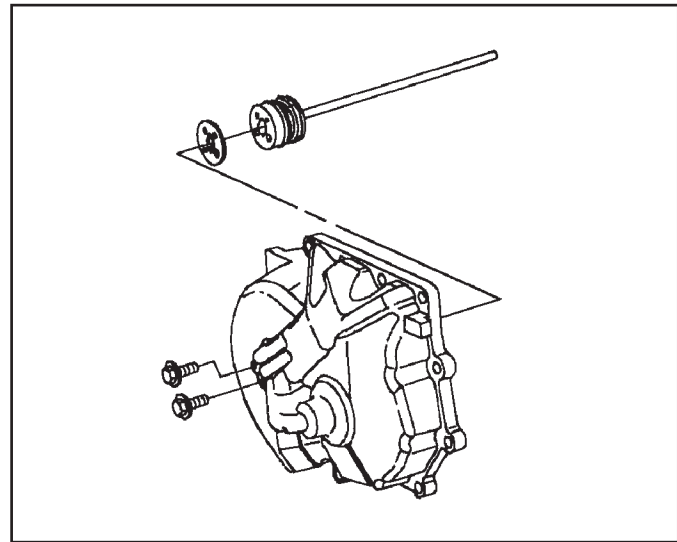

Figure 170
20. Install a new gasket into the rear cover for the lube, 1st and 2nd clutch flange as shown in Figure 170.
21. Install the flange into the rear cover over the gasket and install and tighten the two retaining bolts to 12 N·m (106 in. lbs). Make sure to line up the roll pin with the slots in the cover (See Figure 170).